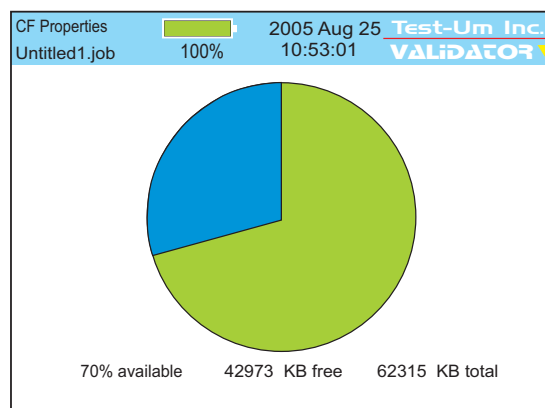

Figure 2.5 Compact Flash Card Properties
The Validator kit includes a high quality mass storage compact flash card. Approximately 6000 cable tests can be stored per 32 Megabytes of card space. Press Select to view a pie chart that displays free card space with numeric values for percentage and kilobytes available (See Figure 2.5).
4. Select Properties from the Start screen, then Support Info. (Figure 2.5)